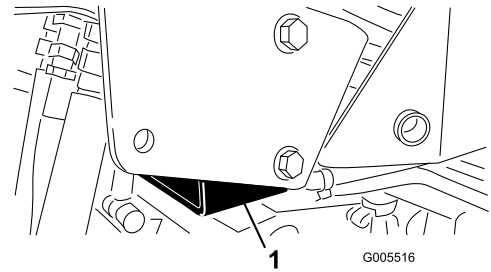

Figure 28
- Right side—under the jack pad and adjacent to the ROPS-support bracket (Figure 28)